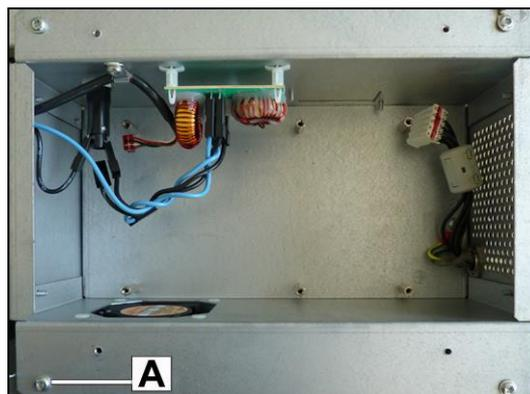

Fig. 3.9
5. Remove **A** locking screws from the inverter box (Fig. 3.9).